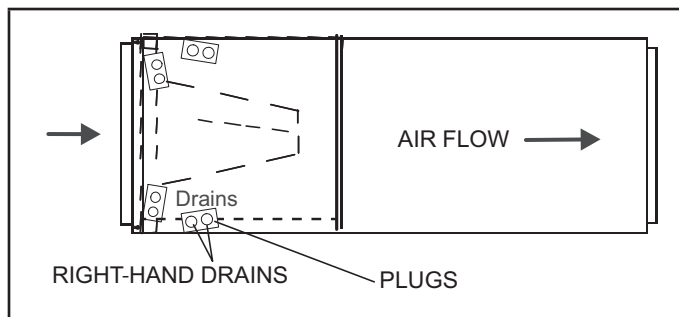

FIGURE 13. Right-Hand Discharge Configuration
- 5 - The horizontal configuration is shown in FIGURE 13.